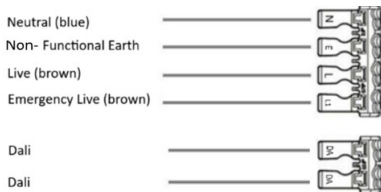

Fig. 3
- Connect to the mains supply ensuring the correct polarity is observed: L – Live (brown), L1 – Emergency Live, E – Earth (brown), N – Neutral (blue). Link between Emergency Live and Live for maintained and no link for non-maintained (see Fig. 3). Two cables can be inserted into the push-fit terminal block to achieve loop-in/loop out wiring.
- Connect additional DALI cable into designated DALI terminal block (see Fig. 3)
- Connect the luminaire to the mains supply and DALI connections (see Fig. 3)